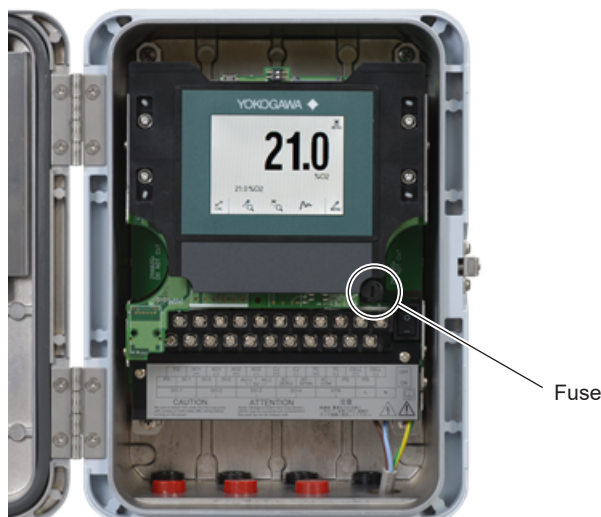

Figure 11.6 Location of Fuse in the Converter
The converter incorporates a fuse, as indicated in Figure 11.6. If the fuse blows out, replace it in the following procedure.
- (1) Turn off the power to the converter for safe replacement.
- (2) Remove the fuse from its holder. With the appropriate flat-blade screwdriver that just fits the holder cap slot (Figure 11.6), turn the fuse holder cap 90° counterclockwise. By doing so, you can remove the fuse together with the cap.
- (3) Check the rating of the fuse and that it satisfies the following: